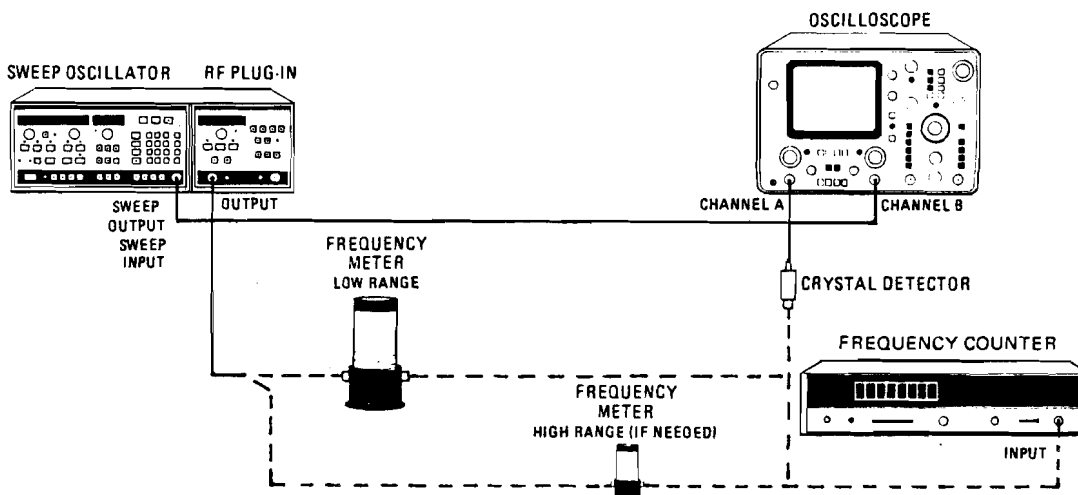

Figure 4-2. Alternate Swept Frequency Accuracy Test Setup
- 7A. Connect equipment as shown in Figure 4-2. Use Frequency Meter/s necessary to cover the high and low frequency range of the installed plug-in. Press 8350A **INSER PRESET** key then set sweep time to 105 msec. If start frequency displayed is lower than 1 GHz the start frequency must be changed to 1 GHz. Set oscilloscope to A vs. B and MAG X10 mode.